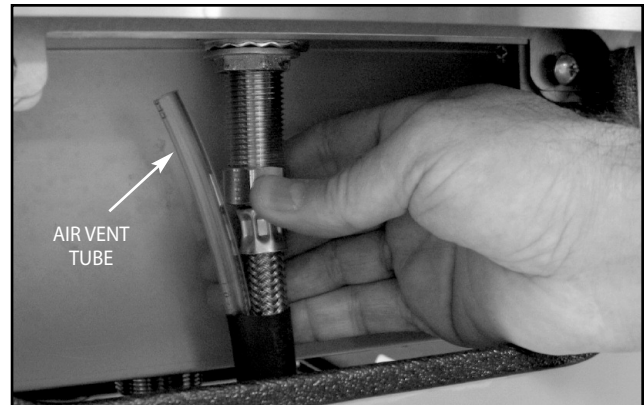

Fig. 37
- Feed the 3-foot water supply hose/air vent tube through the hole at the bottom of the burner box, and attach it to the faucet (Fig. 37).